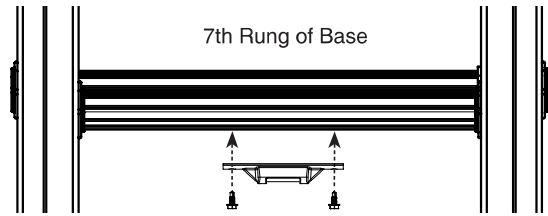

Fig. 8
- Using the $\frac{9}{16}$ inch nut driver, secure bubble level with supplied hex head screws. (Fig. 8) DO NOT OVERTIGHTEN!